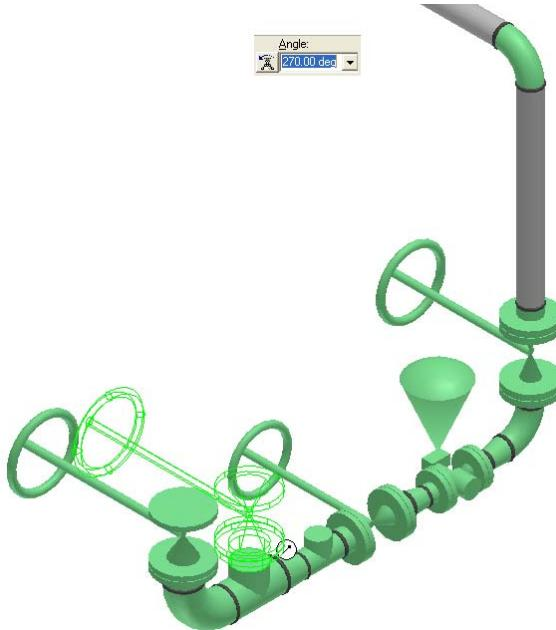

Figure 87: Gate Valve in the Graphic View
48. An outline of the gate valve and the mating flange will appear in the graphic view. Key in **270 deg** in the **Angle** drop-down list on the **Insert Component** ribbon to rotate the gate valve so that the valve operator is facing north, as shown in Figure 87.